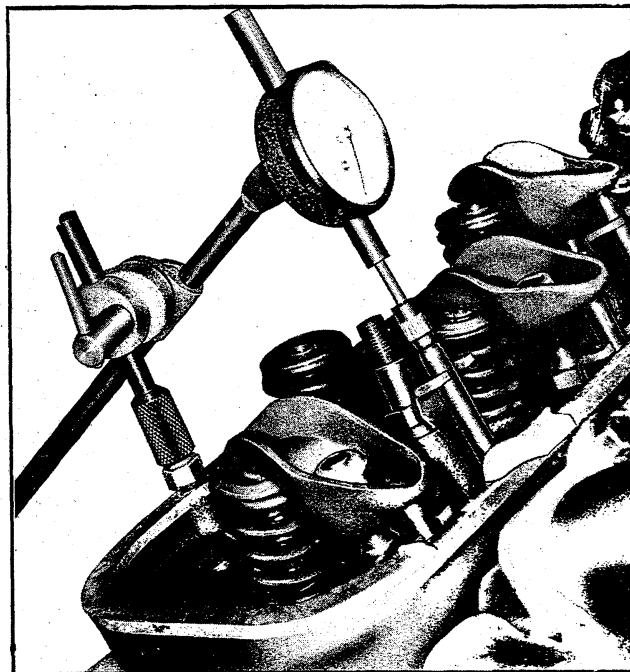

Fig. 26V - Measuring Camshaft Lobe Lift
2. Position indicator with ball socket adapter on push rod (fig. 26V).